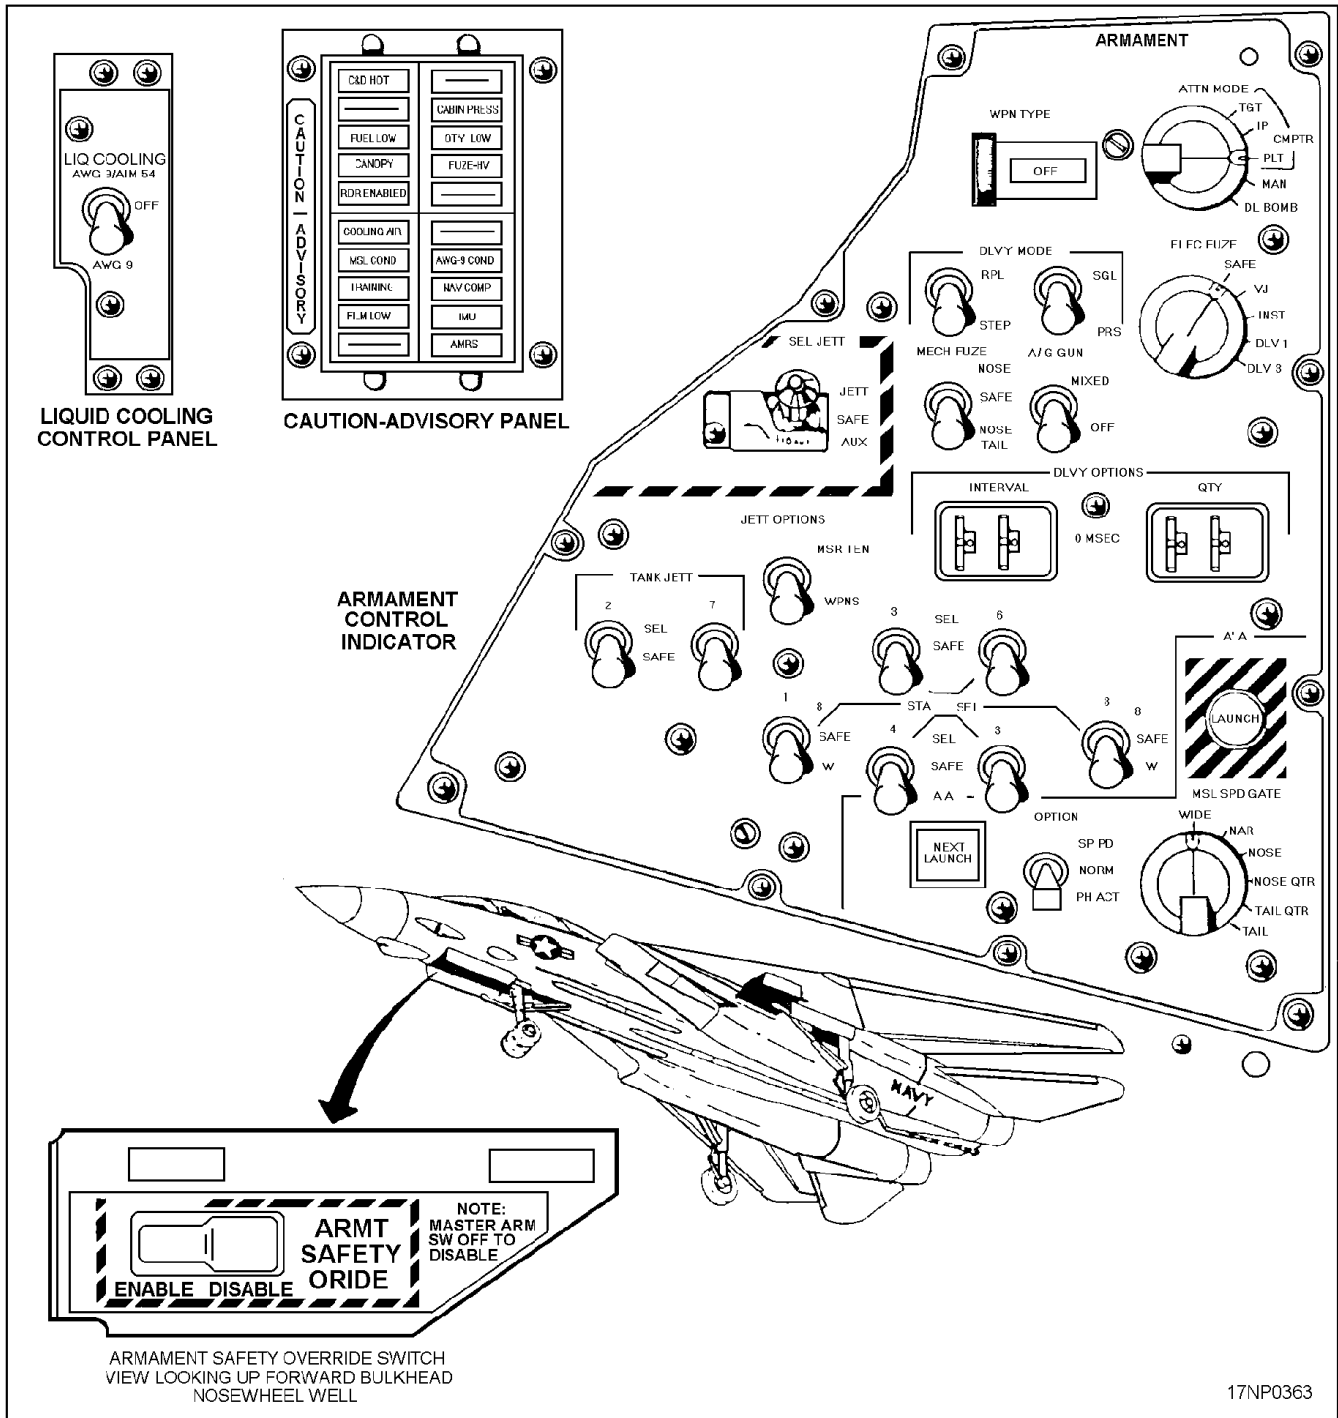

Figure 15-2.—F-14 weapons control panels.
The armament control indicator panel (fig. 15-2) is located in the aft cockpit left vertical console. It contains the attack mode (ATTK MODE) selector switch, weapon-type (WEP TYPE) thumb-wheel switch, electric fuze (ELECT FUZE) selector switch, delivery (DLVY MODE) switches, delivery options (DLVY OPTNS) switches, station set (STA SET) switches, missile option (MSL OPTION) switches, missile speed gate (MSL SPD GATE) selector switch, and select jettison (SEL JETT), tank jettison (TANK
The armament safety override (ARM SAFETY ORIDE) switch (fig. 15-2) is located in the nosewheel well. It is a magnetically held closed switch. The switch is used as an armament safety override to bypass the open landing gear safety circuit when the LDG GEAR handle is in the DN position. This lets you make functional checks of the system during ground maintenance.
**A/G GUN SWITCH.** The A/G GUN switch (fig. 15-2) is located on the armament control indicator panel. It is a two-position toggle switch that enables or inhibits a mixed bomb and gun mode operation. The MIXED position enables bomb and gun mode operation while the OFF position inhibits it.